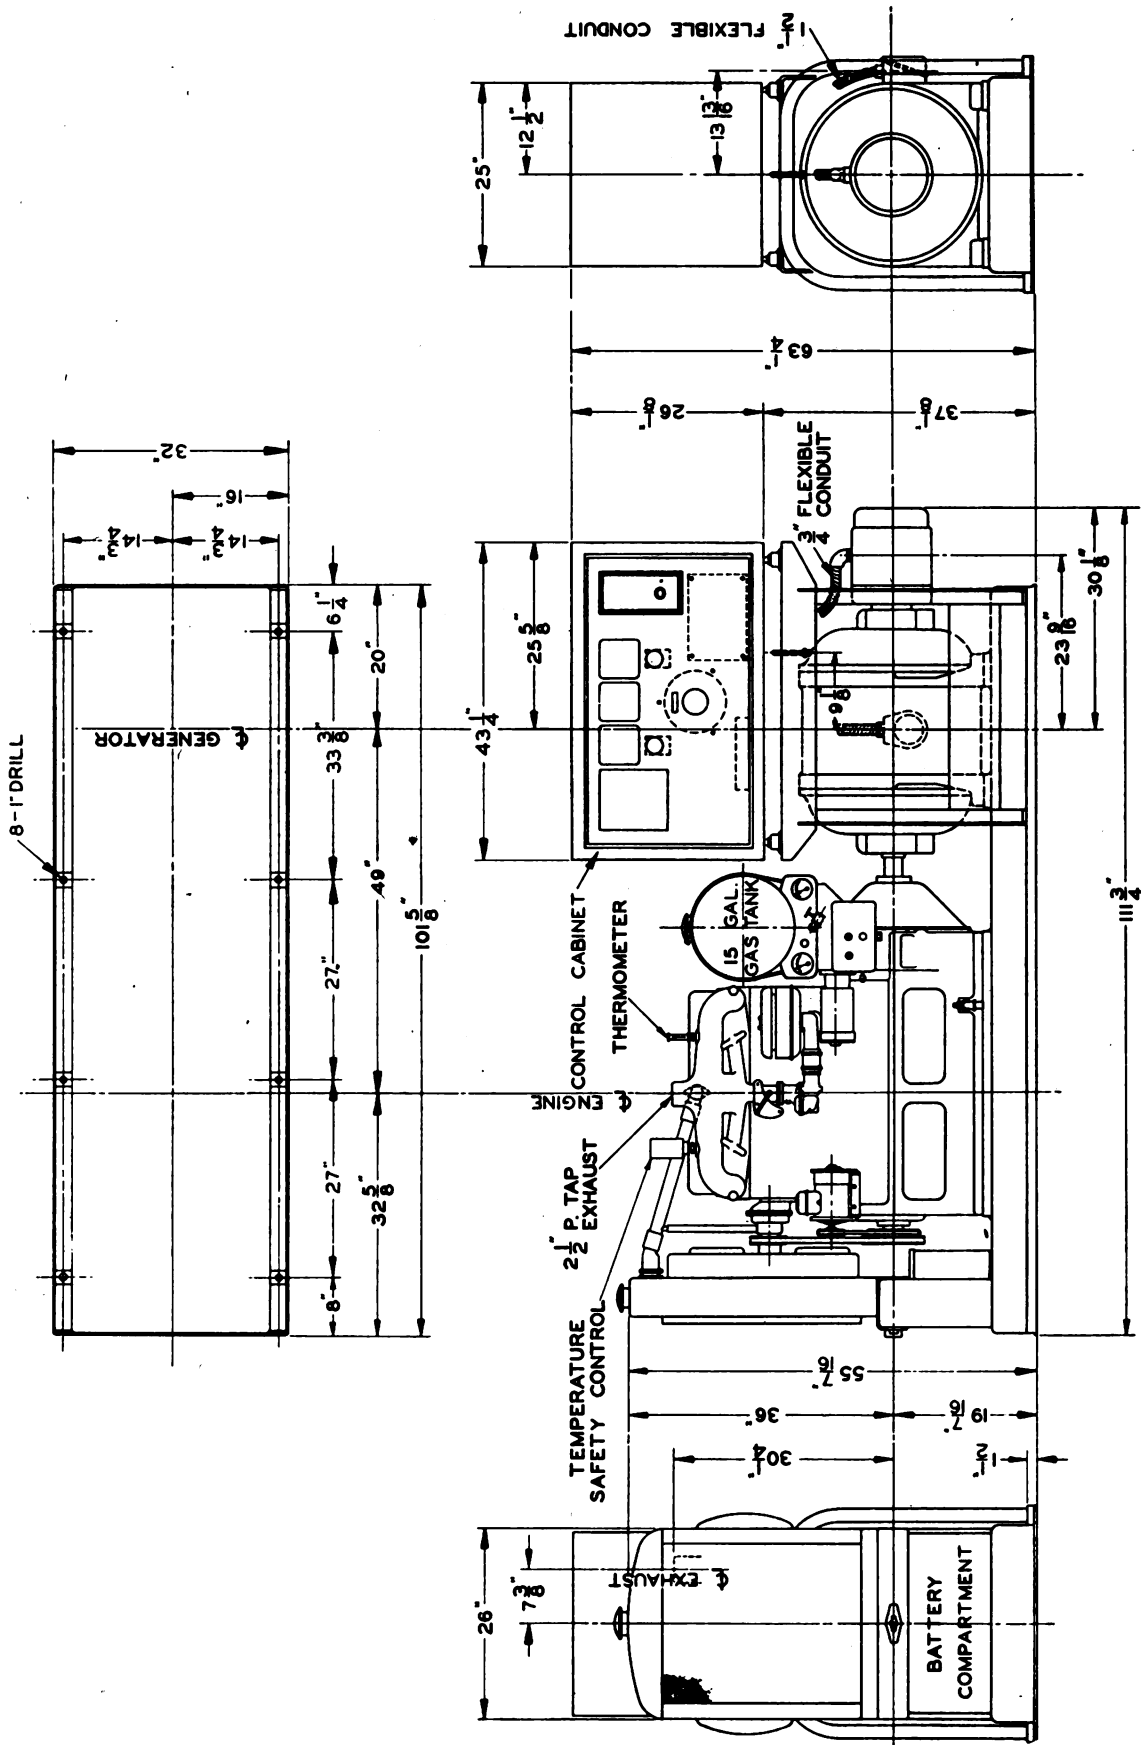

Fig. 101. Installation and Dimensional Drawing of Power Unit (All Except Serial Nos. 181832 to 181955)
a. Power Unit PE-74-(*) †* * * alternating-current generator. **The engine has a 5-inch bore, a 6-inch stroke and develops 70 horsepower at 1,200 revolutions per minute. The alternating-current generator delivers 25 kw.** The entire unit * * * weight—4460 lbs. **For dimensions, see figures 101 and 102.**
¹ For dimensions see figures 101 and 102.